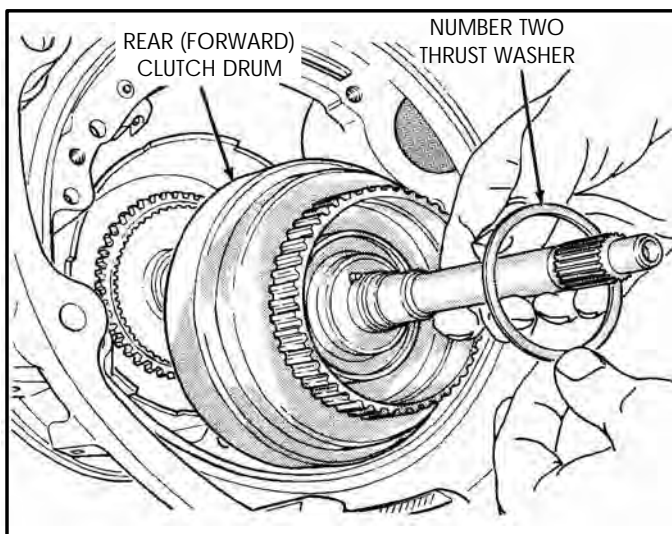

Figure 46
25. Remove rear (forward) clutch drum assembly, as shown in Figure 46, and set assembly aside for component rebuild section.
26. Remove the number 2 thrust washer, as shown in Figure 46.